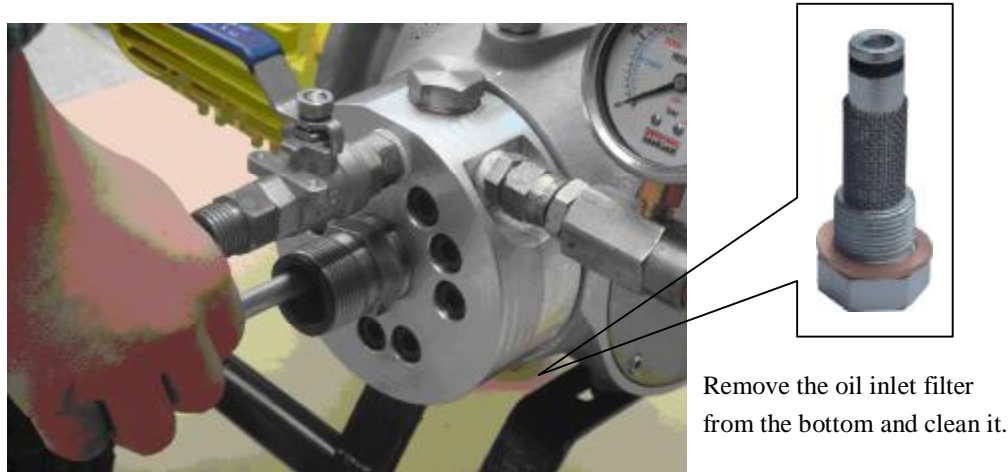

Figure 8
5. Check the oil inlet filter, prevent any other thing from the piston.(Figure 8)